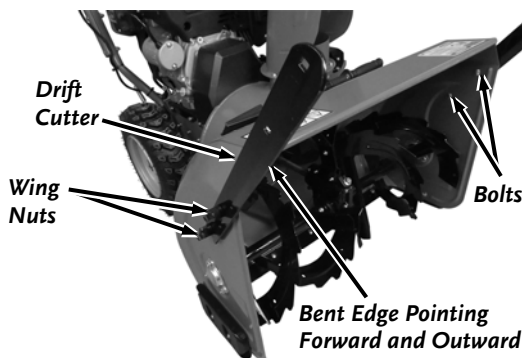

Figure 23
1. Position the Drift Cutters and secure each one with two Carriage Bolts and Plastic Nuts (**Figure 23**).